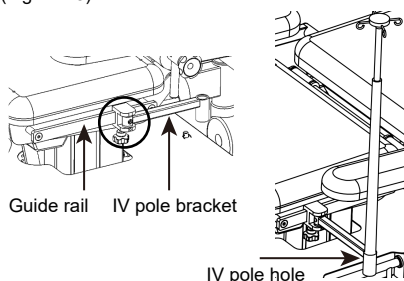

Figure 15
- Pull out the bracket and insert IV pole (Figure 15).